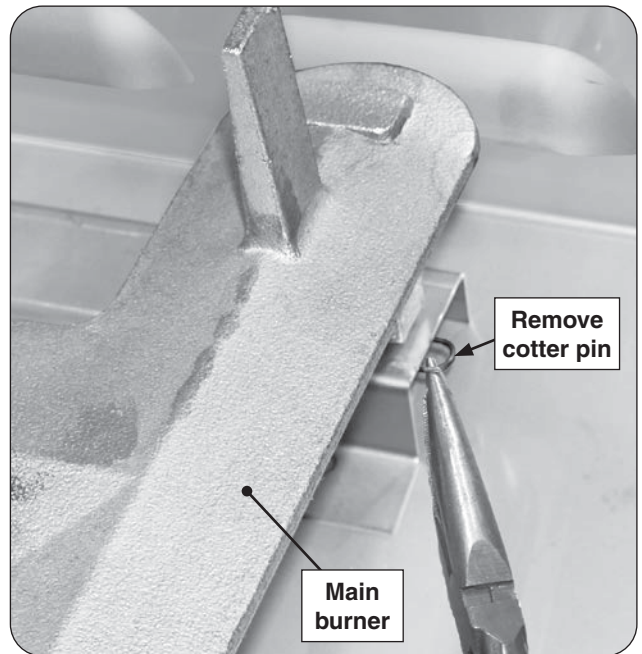

Fig. 37-1 Main burner removal
2. Locate and remove the cotter pin from the left or right rear burner anchoring peg by pulling it straight out of the cotter pin hole using fingers or needle-nose pliers. See Fig. 37-1.